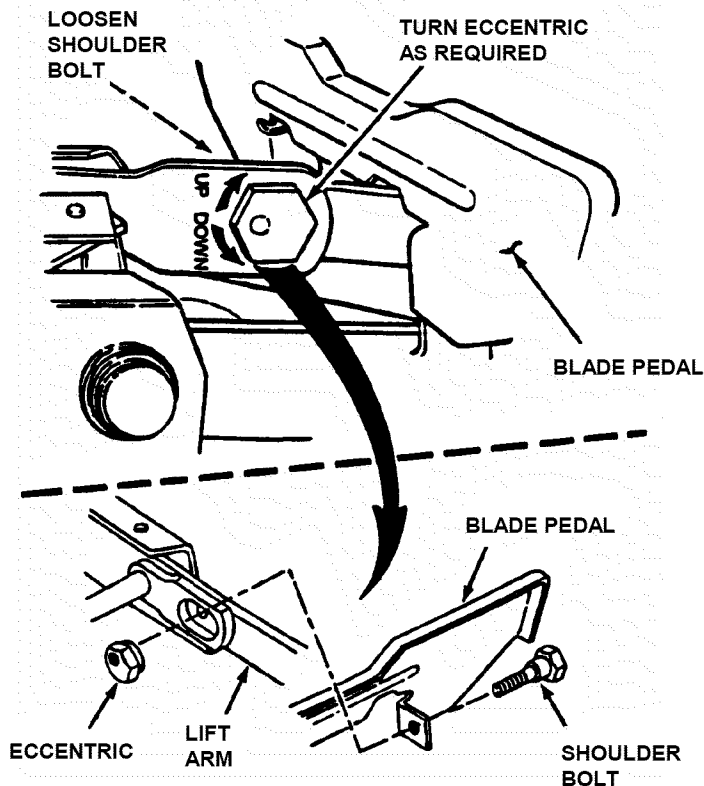

FIGURE 4.3
7. Turn eccentric "UP" or "DOWN" as required until blade tips are within 1/8" of each other. See Figure 4.3.